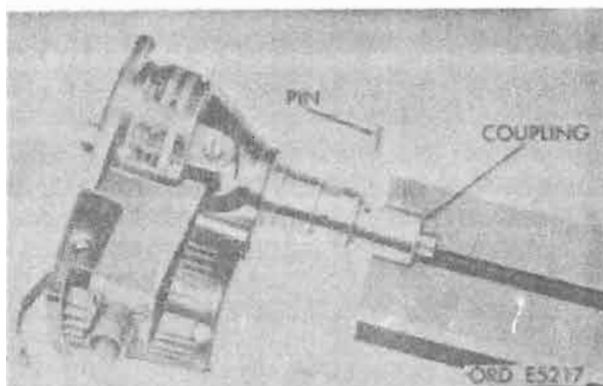

Figure 6-3. Shaft coupling removal.
a. Remove roll pin with drift and hammer (fig. 6-3).
c. If existing shaft and coupling are to be reinstalled, proceed as follows. If either shaft or coupling are discarded, proceed as indicated in d (1) through (7) below.
(1) Install one thrust washer on shaft, install shaft in housing, and slide second thrust washer into place on shaft.
(2) Slide coupling into distributor shaft and install roll pin with drift and hammer (fig. 6-3).